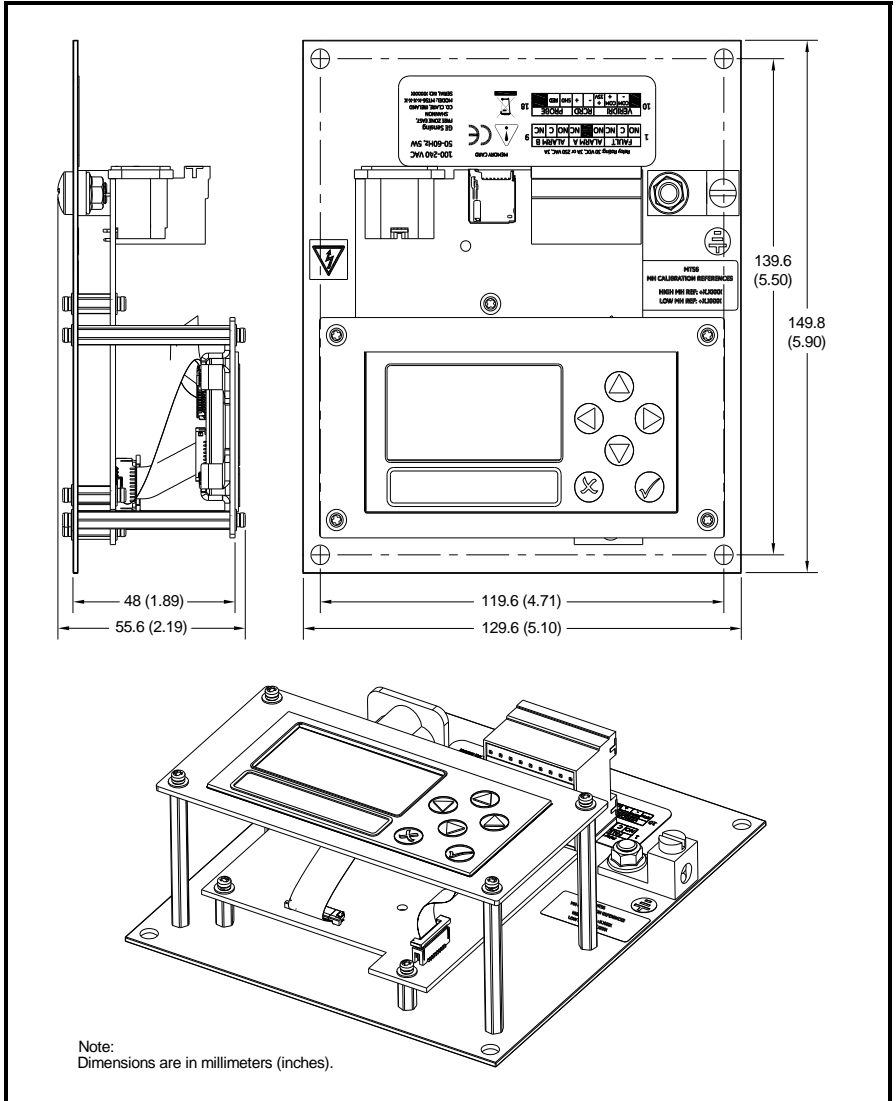

Figure 66: Non-Enclosure Package Outline (ref. dwg #712-1687)
1. Mount the MTS6 package in an enclosed panel where no hazardous live wires are exposed. See Figure 66 for dimensions.